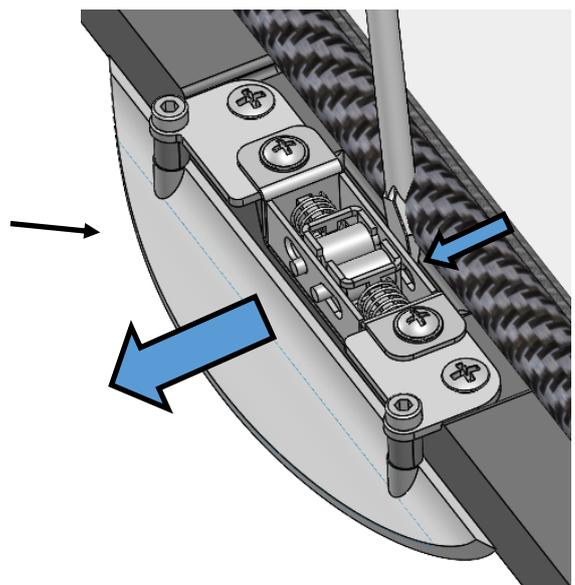

Fig. 4.
- This lock nut should be **1mm less** than the dimension measure and noted above. Check with a ruler. Whilst holding this lock nut, screw the remaining adjustment nut to tighten against the lock nut, see Fig.4.
- This lock nut should be **1mm increased** from the dimension measure and noted above. Check with a ruler. Whilst holding this lock nut, screw the remaining adjustment nut to tighten against the lock nut, see Fig.4.
- Using a wide flat bladed screw driver, place this between the catch and the edge of the door, as shown in Fig.4. Check to see if the roller guide, return to the closed position, near to the centre of the catch